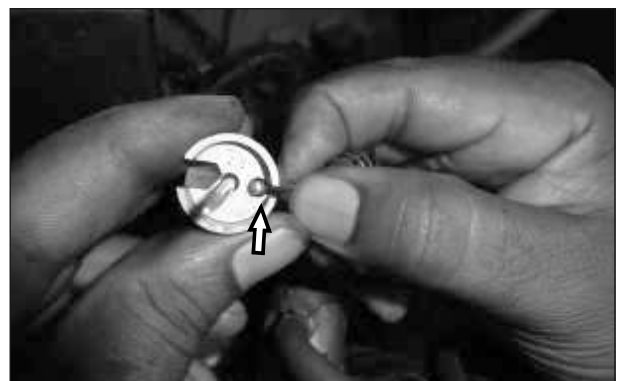

Fig. 5.20
- Compress the spring throttle and dislocate the cable from the piston valve.(Fig. 5.20)